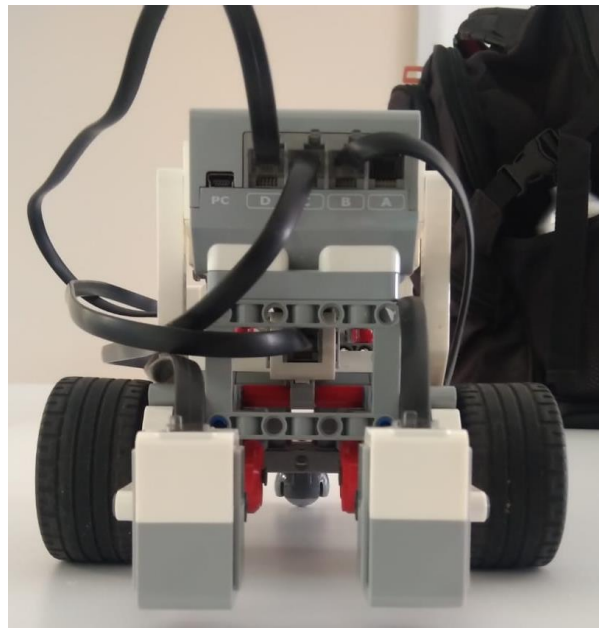

Figure 6. Color sensors in the robot.
**Color sensor (Figure 5):** The robot needs color sensors to know where it is by detecting landmarks (black and green insulating tape, blue and red sheets). As can be seen in Figure 6 we use two sensor on the robot. Since we need to know how good is the information retrieved by the sensor (because that's the way we can say if it is accurate or not and if we must manage the error or can simply trust on the sensor), it is necessary to carry out some test over it.